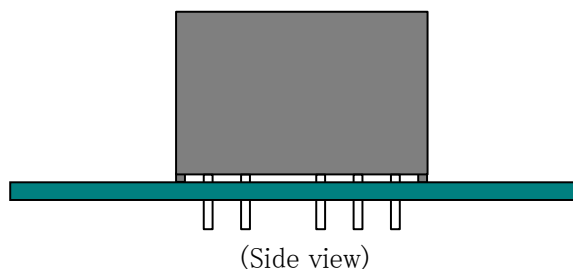

Fig.1.1 Mounting method
- (1) Input :DC 48 [V]
- (2) Output :Rated output
- (3) Cooling method :Convection cooling
- (4) Mounting method :Shown as Fig.1.1